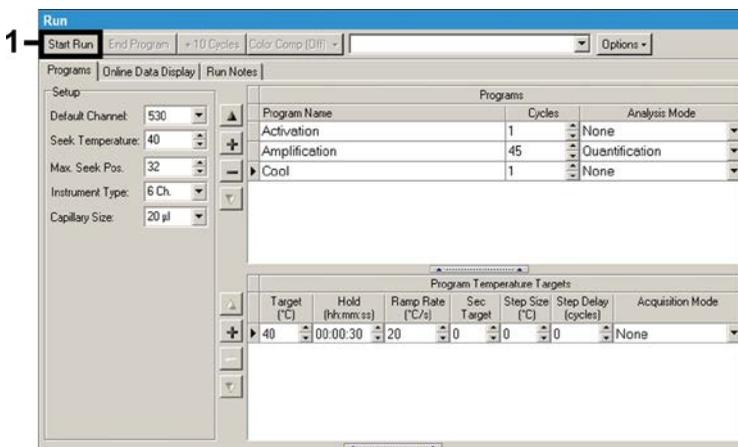

Fig. 9: Start of the PCR run.
- In order to start the PCR run, change to the field *Run* and activate the function *Start Run* (see Fig. 9). The PCR program will start after entering the location, where the data should be saved.